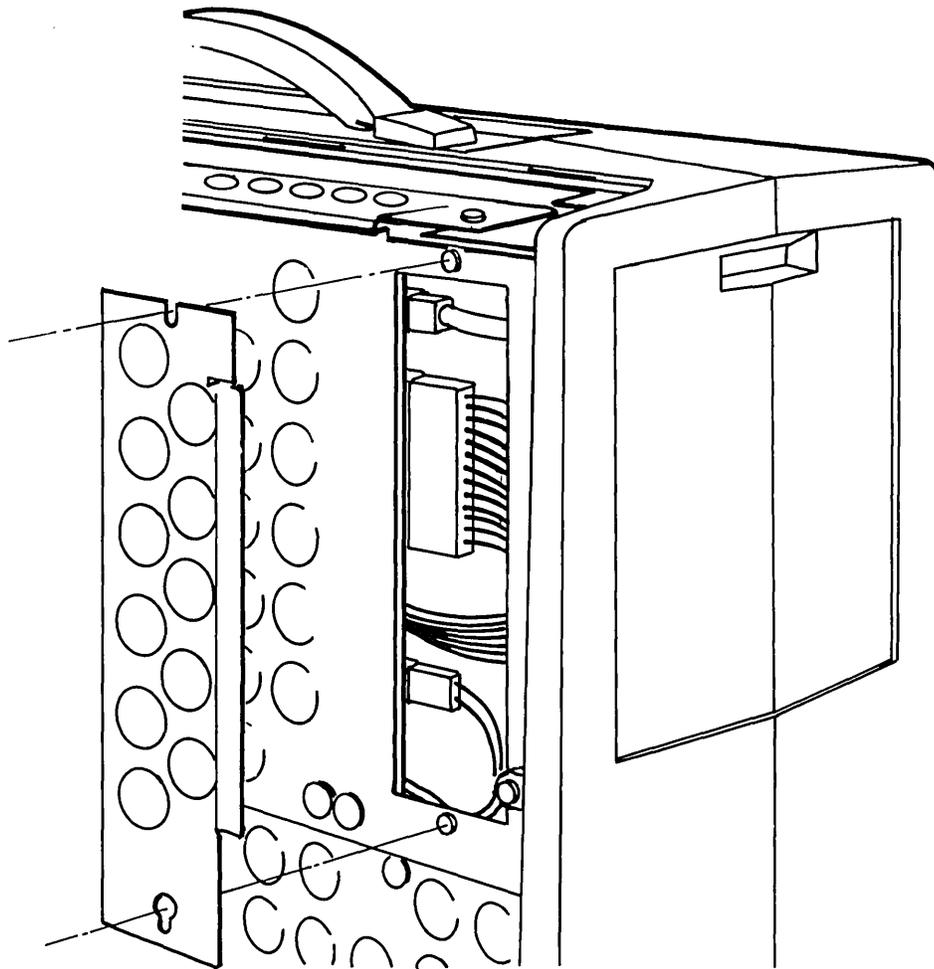

Figure 7-27. Loosening Processor Board Access Plate.
- 12 Place the computer so that the display is facing downward against the work surface. Locate and loosen (DO NOT REMOVE) the two screws which secure the narrow access cover for all the processor board connectors. Remove the narrow access cover by lifting it away from the system chassis (see Figure 7-27).